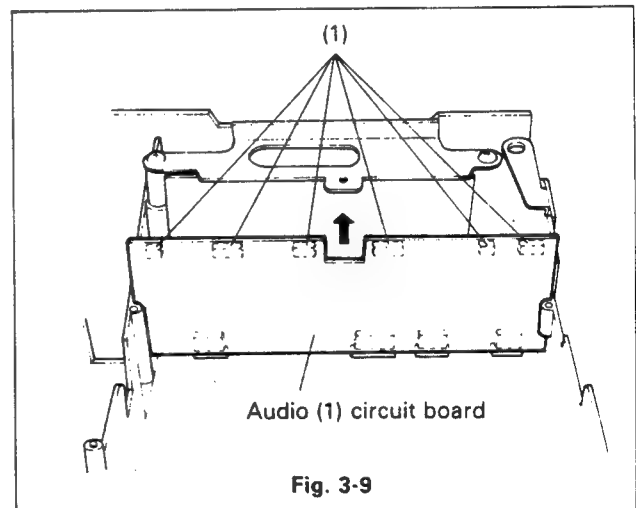

Fig. 3-9
3-9. AUDIO (1) CIRCUIT BOARD (Figure 3-9)
- (1) Remove the top cover. (Refer to Item 1-1.)